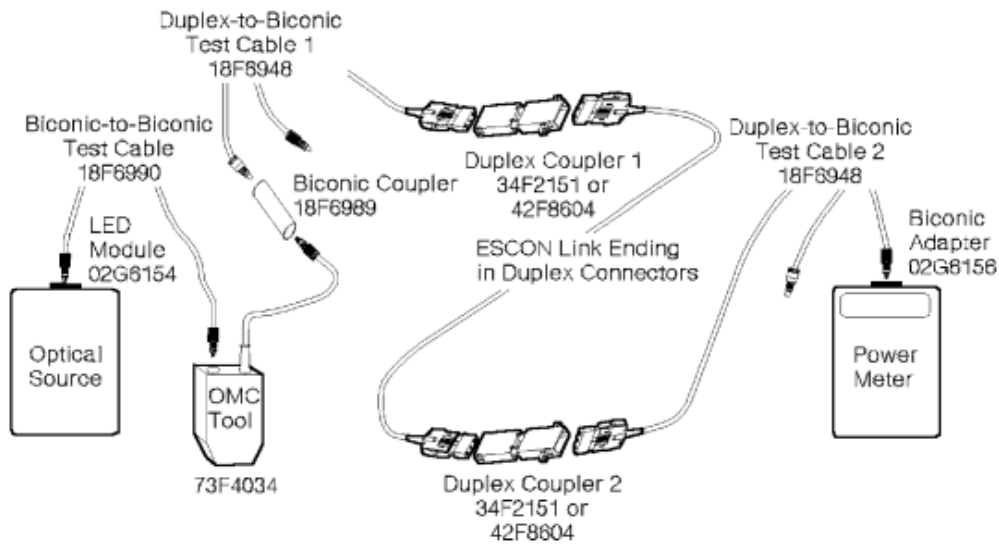

Figure 51. Connecting the test equipment to a multi-mode link
6. Attach the test equipment to the link as follows (see Figure 51 on page 45):